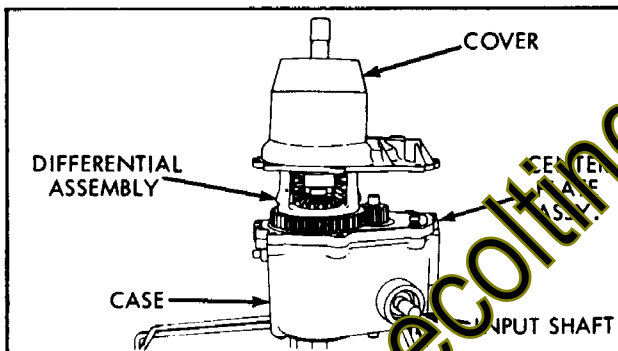

Figure 2-15
10. Install transaxle cover assembly, (Fig. 2-15), and secure with eight (8) cap screws.